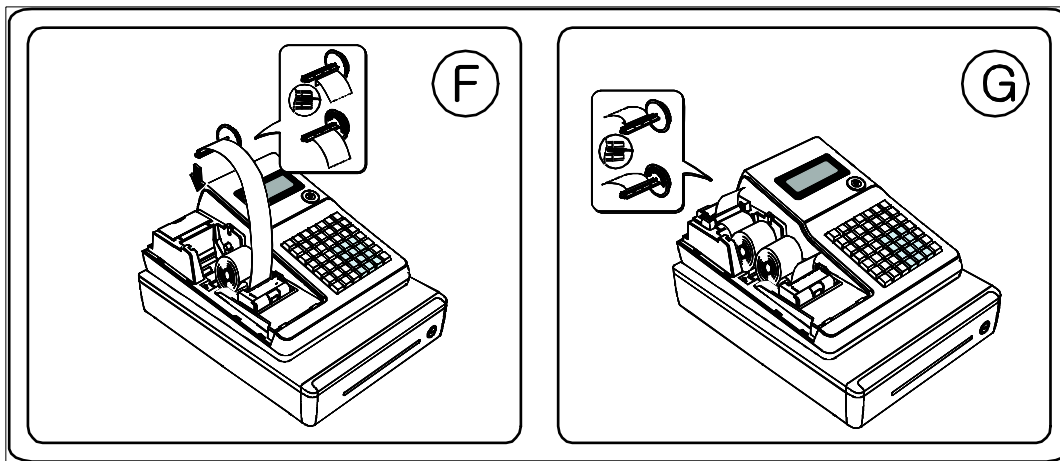

Figure 3-3. Spool Installation
1. If you use the ER-260 Series with 1-station, refer to below figure. (Fig 3-3 (F))
2. If you use the ER-260 Series with 2-stations, refer to below figure. (Fig 3-3 (G))